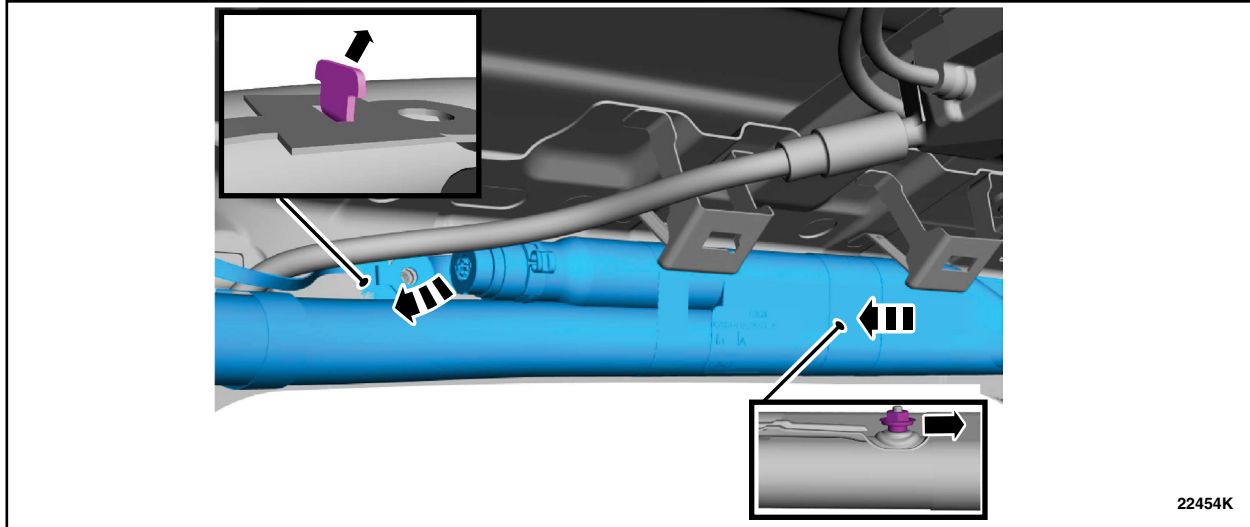

FIGURE 24
26. Slide the *new* side curtain airbag rearward, engaging the retainer to the sheet metal, then rotate the side curtain airbag and attach the retainer. See Figure 24.